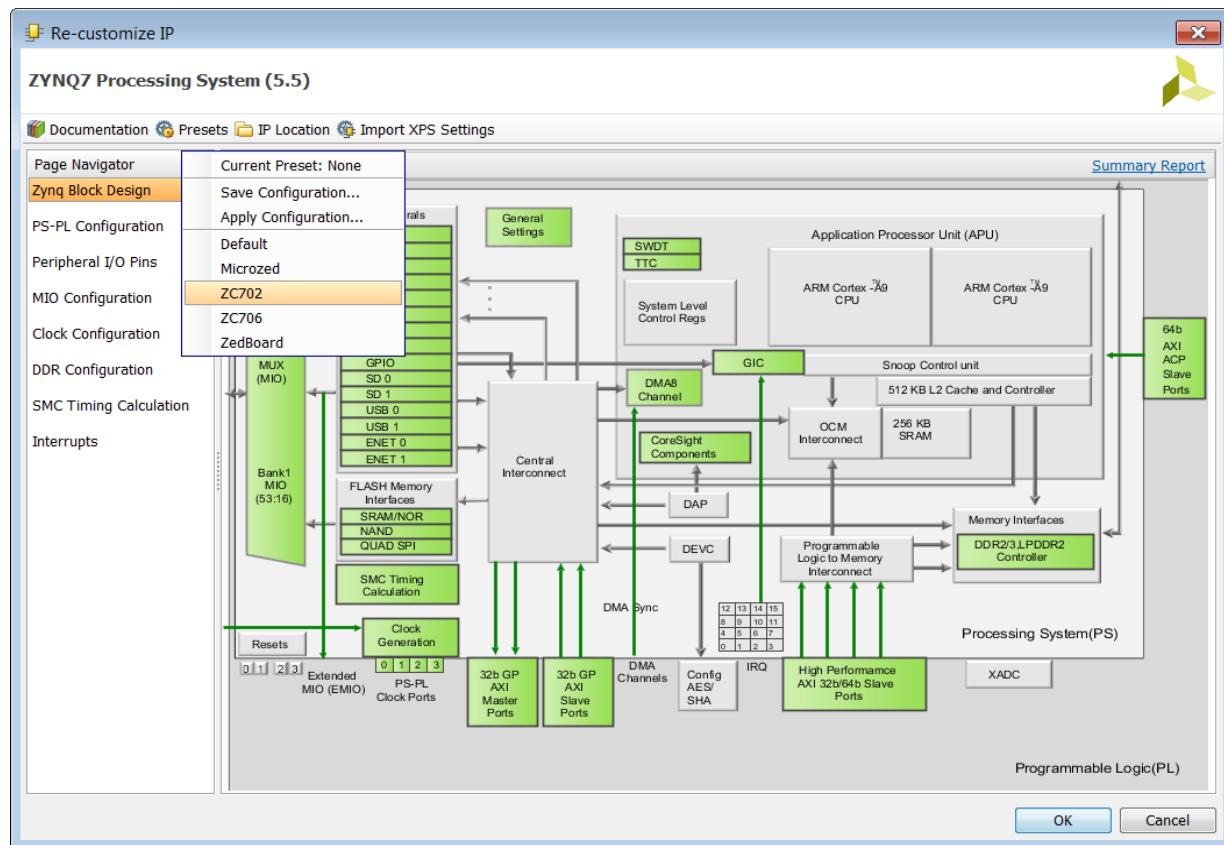

Figure 10-15: Configure the Zynq AP SoC
- a. Click the **Presets** icon and select **ZC702** (Figure 10-15).